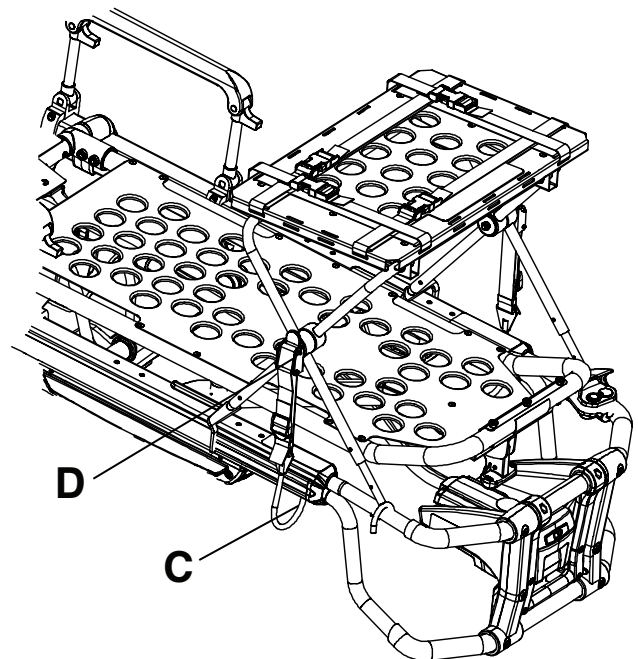
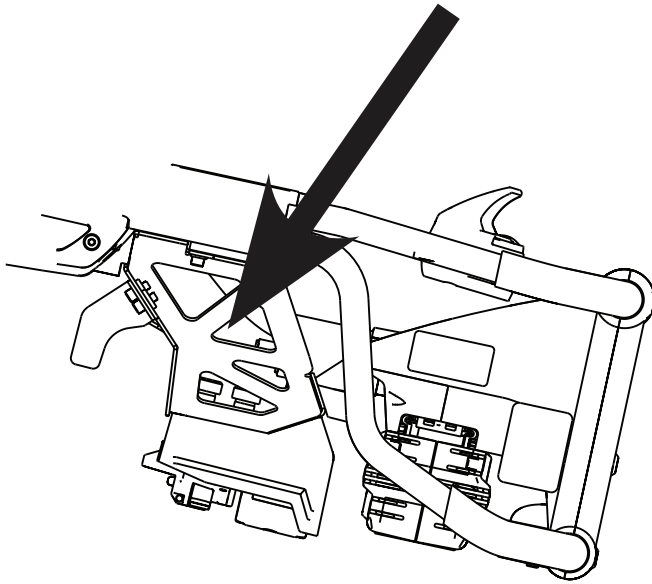

Figure 29 – Latch hook placement (Model 6506 shown)
Figure 30 – Tab (Model 6506 shown)
6. Place the latch hook (C) under the litter frame or foot end fastener and push the tab (D) up until it locks into place on one side with an audible click (Figure 29). Repeat on the other side. For **Power-LOAD** compatible cots, if equipped, you must lengthen and attach the straps to the foot end fastener (Figure 30).